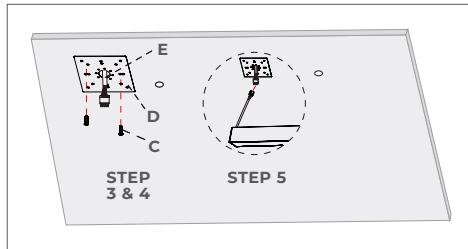

FIGURE 6-5
- 3) Cover the junction box with mounting plate "D" and secure using screw "C," followed by plaster. (Figure 6-5)
- 4) Make wiring connections. Insert AC wires, dimming wires, and ground wire into the male quick connector "E" (Figure 6-5)
- 5) Make connection between male and female quick connects. Hide all wires in the junction box. (Figure 6-5)